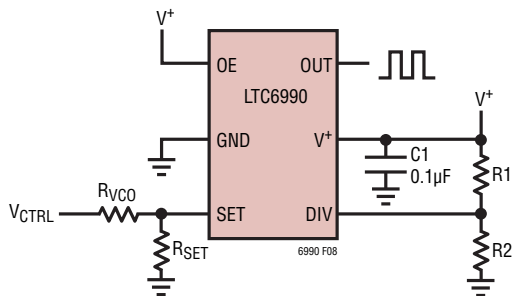
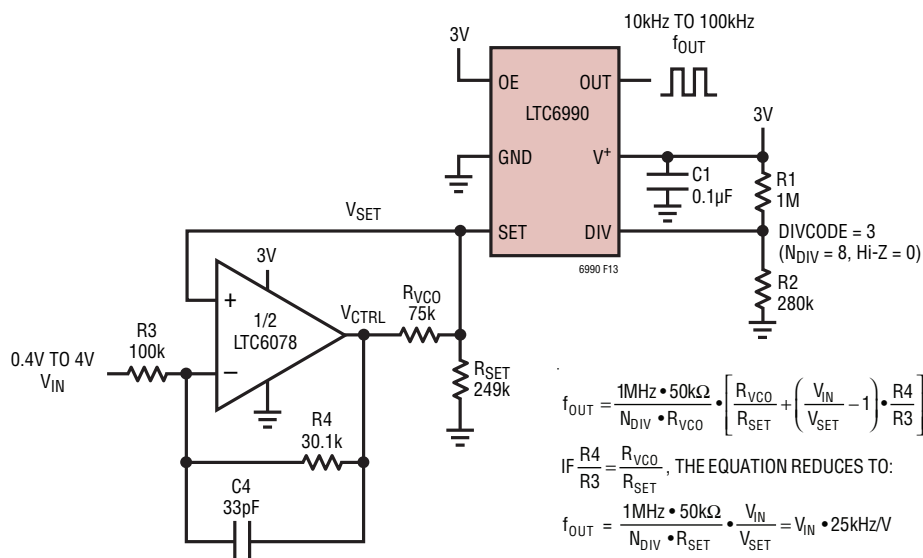

Figure 11. Voltage Controlled Oscillator
Figure 13. VCO with Reduced ΔV_{SET} Sensitivity
Operating the LTC6990 as a voltage-controlled oscillator in its simplest form is achieved with one additional resistor. As shown in Figure 11, voltage V_{CTRL} sources/sinks a current through R_{VCO} to vary the I_{SET} current, which in turn modulates the output frequency as described in Equation (2).
For wide frequency range applications, the non-inverting VCO circuit shown in Figure 13 is preferred because the maximum frequency error occurs when the frequency is highest, keeping the relative error (in percent) much smaller.
Depending on the application's requirements, the non-inverting VCO circuit in Figure 13 may be preferred for this wide of a frequency variation as its maximum inaccuracy due to V_{SET} error is only $\pm 9\%$ and can be reduced to only $\pm 3\%$ with a small change to the voltage tuning range specification.
Figure 13 shows a VCO that reduces the effect of ΔV_{SET} by adding an op-amp to make V_{CTRL} dependent on V_{SET} . This circuit also has a positive transfer function (the output frequency increases as V_{IN} increases). Furthermore, for positive V_{IN} voltages, this circuit places the greatest absolute frequency error at the highest output frequency. Compared to the simple VCO circuit of Figure 11, the absolute frequency error is unchanged. However, with the maximum absolute frequency error (in Hertz) now occurring at the highest output frequency, the relative frequency error (in percent) is greatly improved.
Figure 13 shows a design similar to the previous design example where the V_{MIN} voltage is now specified to be 0.4V. This satisfies the $V_{MAX}/V_{MIN} \geq f_{MAX}/f_{MIN}$ condition and the design assures that the output frequency error due to V_{SET} variation is only $\pm 3\%$.